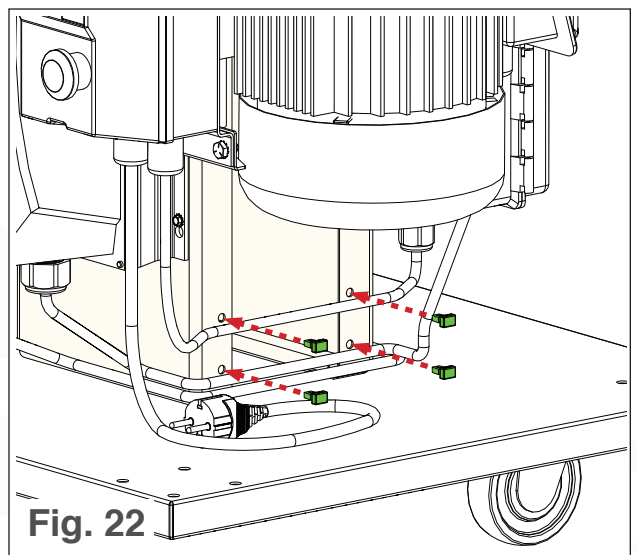

Fig. 22
1. Place the four cable tie mounts in the bottom of the motor support, and push until a click is felt (see Fig. 22).